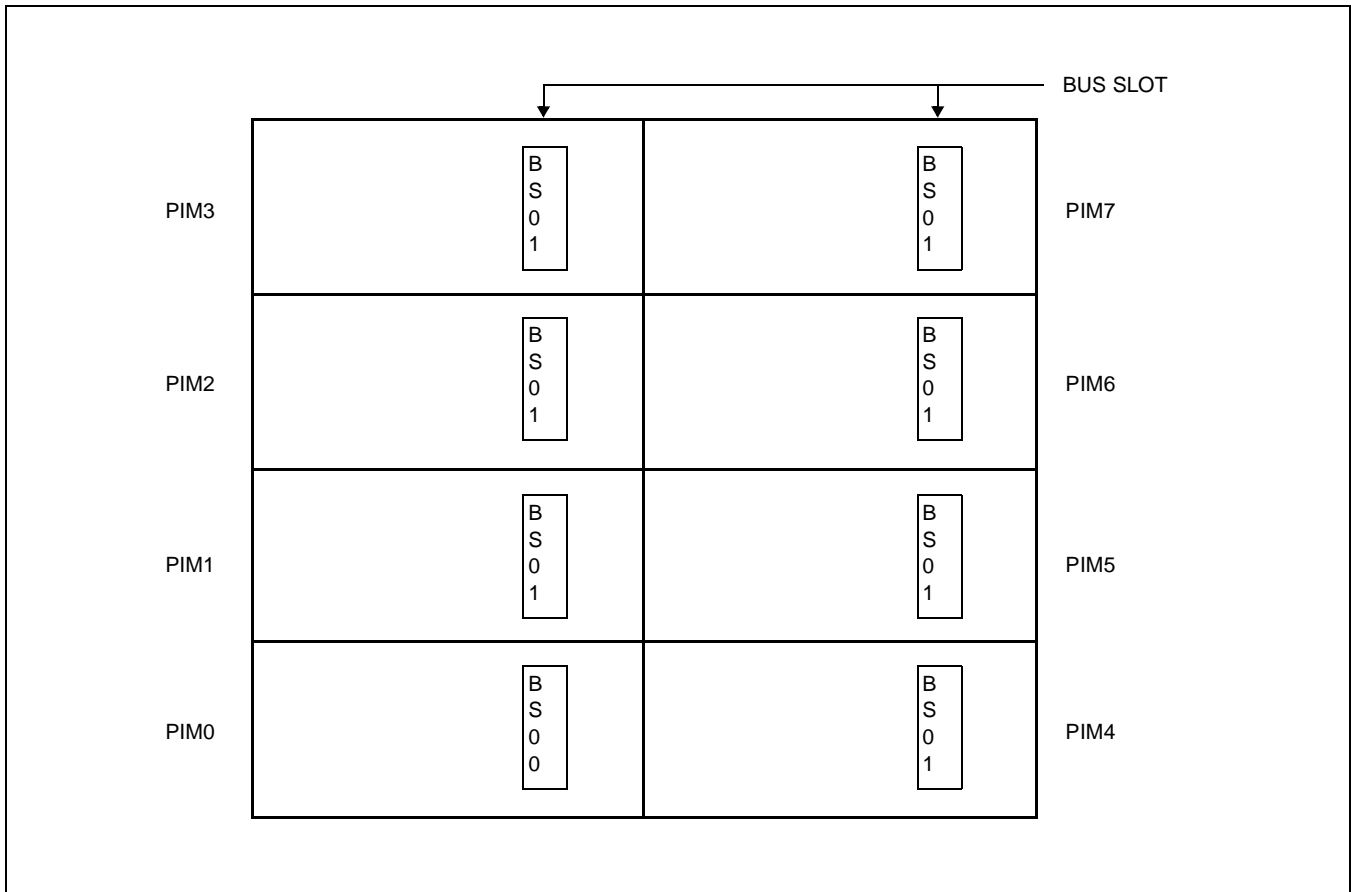
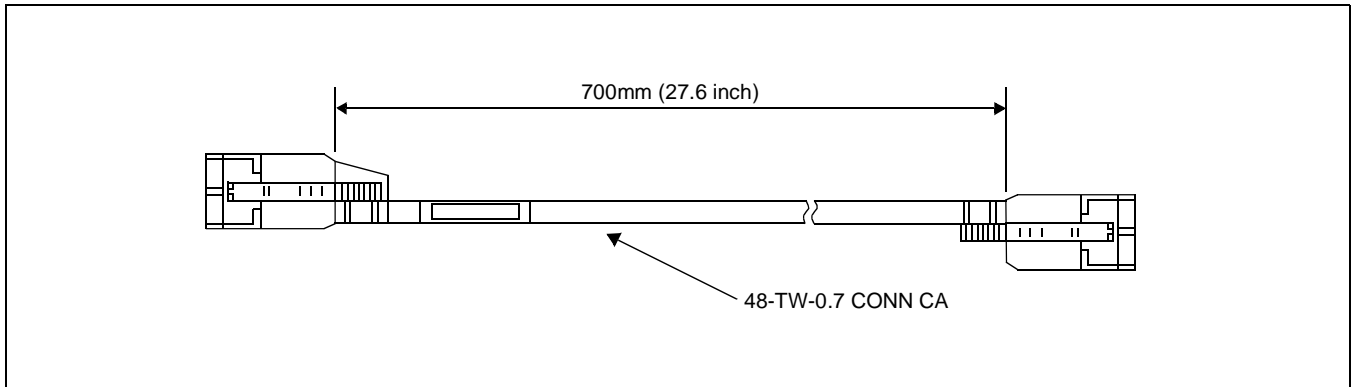
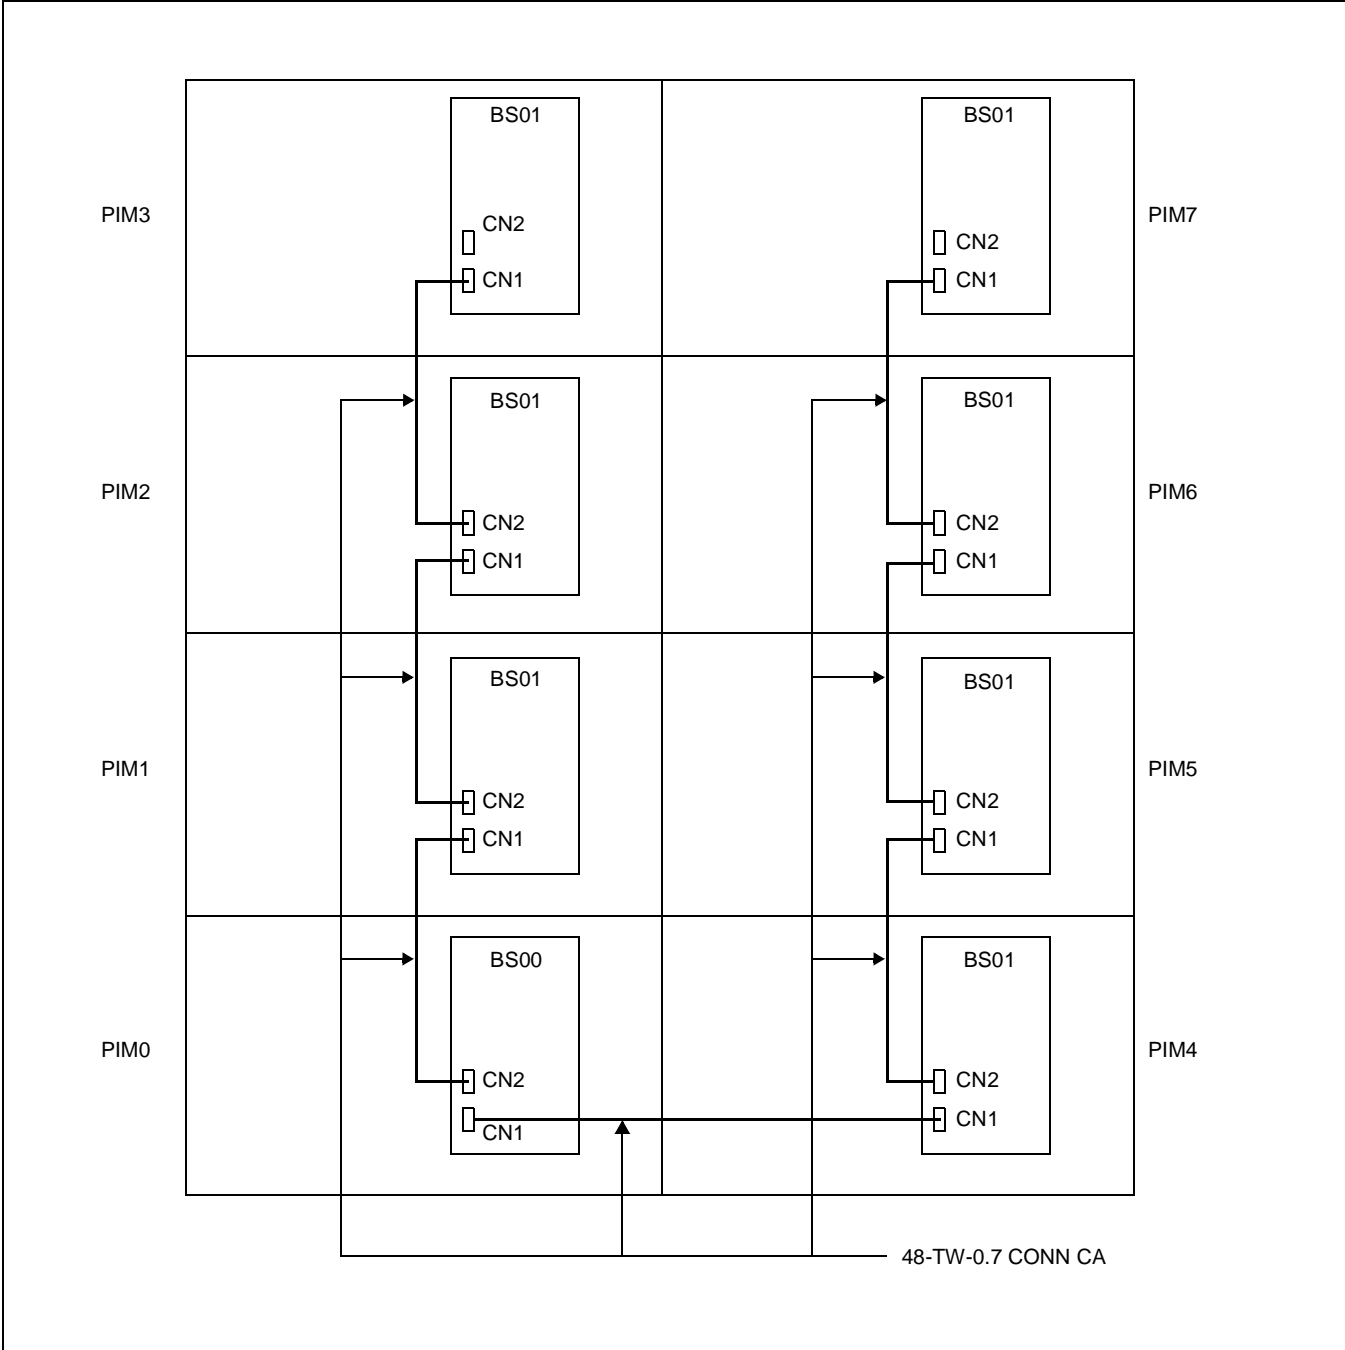

Figure 003-16 Mounting of the BUS Cards
Figure 003-17 BUS Cable
Figure 003-18 Connection of the BUS Cables
(13) When the system is a multiple-PIM configuration, connect all the BUS Cards (PN-BS00/PN-BS01) to each other using BUS cables, as shown in Figure 003-17 and Figure 003-18.
- (9) When the system is a multiple-PIM configuration, mount the PN-BS00 card in the BUS slot of PIM0, and mount the PN-BS01 card in each BUS slot of PIM1 through PIM7 (Refer to Figure 003-16). Then, connect all the BUS cards (PN-BS00/PN-BS01) to each other using BUS cables (Refer to Figure 003-17 and Figure 003-18).
- (c) Mount the PN-BS00 card in the BUS slot of PIM0, and mount the PN-BS01 card in each BUS slot of PIM1 through PIM3 (Refer to Figure 003-16).
Then, connect all the BUS cards (PN-BS00/PN-BS01) to each other using BUS cables (Figure 003-17 and Figure 003-18).